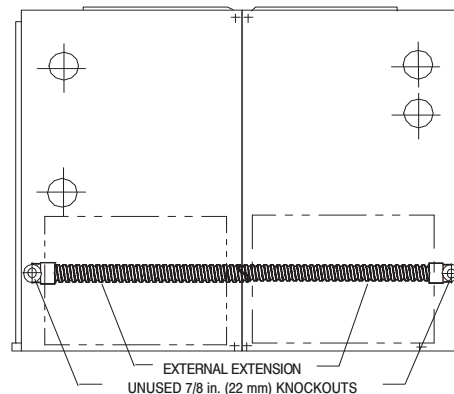

Fig. 3 – External Extension L11F102
- b. In the Back-to-Back, upflow, downflow and horizontal applications, reference the furnaces from the side of the external extension harness. The LH furnace is the Main furnace and the RH furnace is the Secondary furnace, as you would see them in the upflow application, see Fig. 3 and Fig. 5.